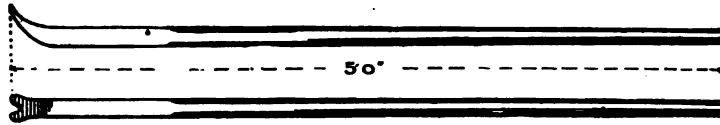

FIG. 8.—CLAW BAR.—Weight 30 lbs
**The Claw Bar** (Fig. 8) commences with 2 ft. of 1 1-2 in. square with upset end and 3 in. of 2 in. square cast steel welded in for the claw. Then 18 in. of 1 3-8 in. round and 18 in. of 1 1-8 in. round. When done to be 5 ft. long and to weigh about 30 lbs. On account of care required, only three can be turned out in a day. The forming and shape of the claw needs great attention, and considerable skill to make perfect. The angle of the claw with the bar should be about 45°, which gives a convenient angle for a man to drive it under a spike head. Some bars have a long curve connecting claw with the bar so that the latter is about at right angles with the former. This is called in track parlance a "high-heeled" or "goose-neck" bar, and with it a spike can be drawn straight without putting a rest or "bait" under the heel. With this bar, the angle between claw and bar is so great that it cannot be struck under the spike head conveniently, and therefore trackmen sometimes object to it. The best arrangement, if much drawing is to be done, is to have both kinds, the straight-bar preceding and starting the spikes up, while the high-heeled bar follows, drawing them entirely. Two men can work faster, and with less injury to spikes this way, than one man with straight bar, and another accompanying him to hold "bait."